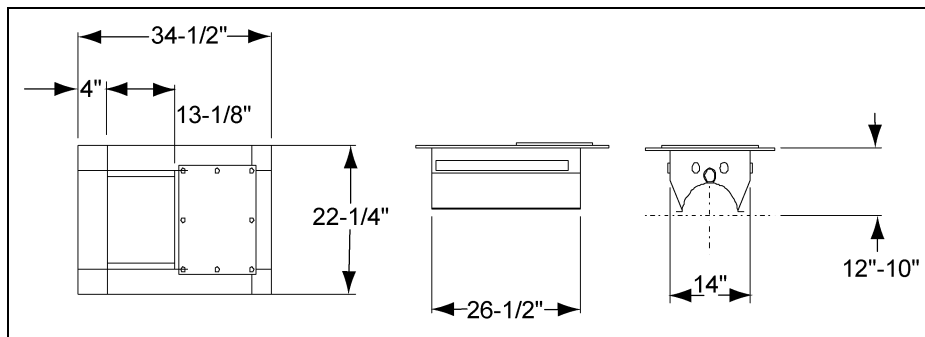

Figure 8J
* 12" Commercial intermediate well drawing below. (See Figure 8J.)